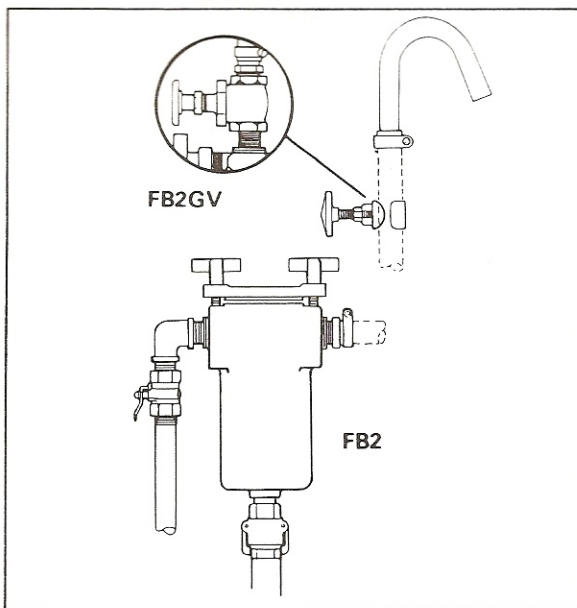

Figure 8. Type FB2 and FB2GV Systems
- d. **Type FB2 By-Pass (Figure 8):** Filter By-pass complete with HFST filter. Specify 30, 60, 100 or 150 mesh filter screen.
- e. **Type FB2GV By-Pass (Figure 8):** Same as FB2 except gate valve supplied instead of pinch valve.